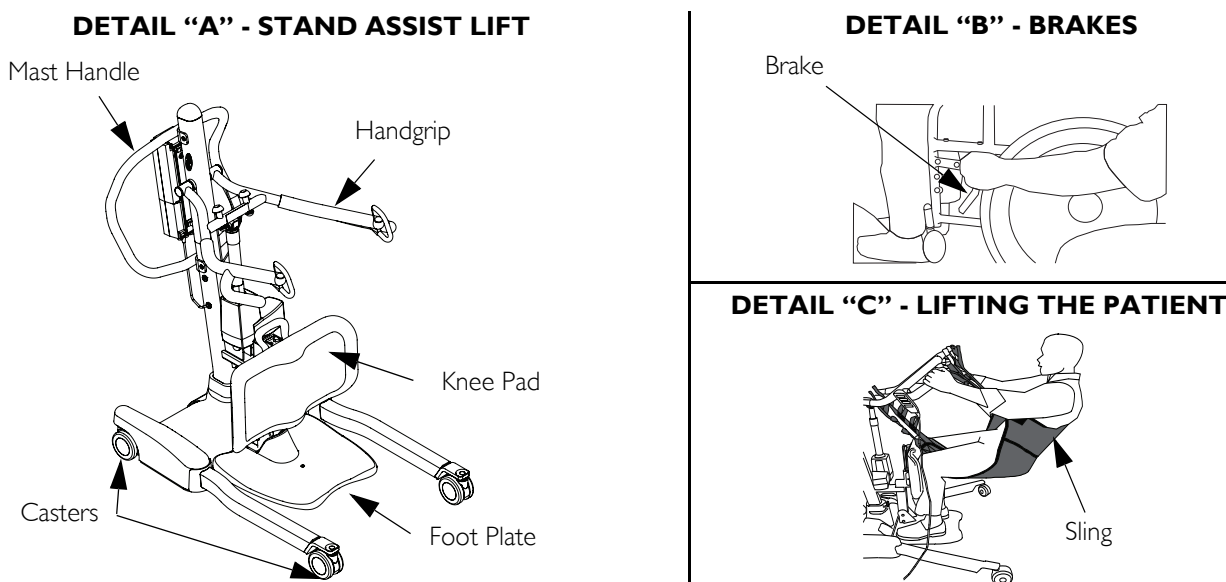

FIGURE 4.2 Lifting the Patient
NOTE: For this procedure, refer to FIGURE 4.2 on page 19.
1. Instruct the patient to hold onto the hand grips on both sides of the stand assist lift (Detail “A” of FIGURE 4.2).
4. If transferring from a wheelchair, engage the brakes on the wheelchair (Detail "B" of FIGURE 4.2).
5. Press the UP arrow button on the hand control to raise the patient above the surface (bed, wheelchair or commode). The patient's weight will be fully supported by the stand assist lift (Detail "C" of FIGURE 4.2).